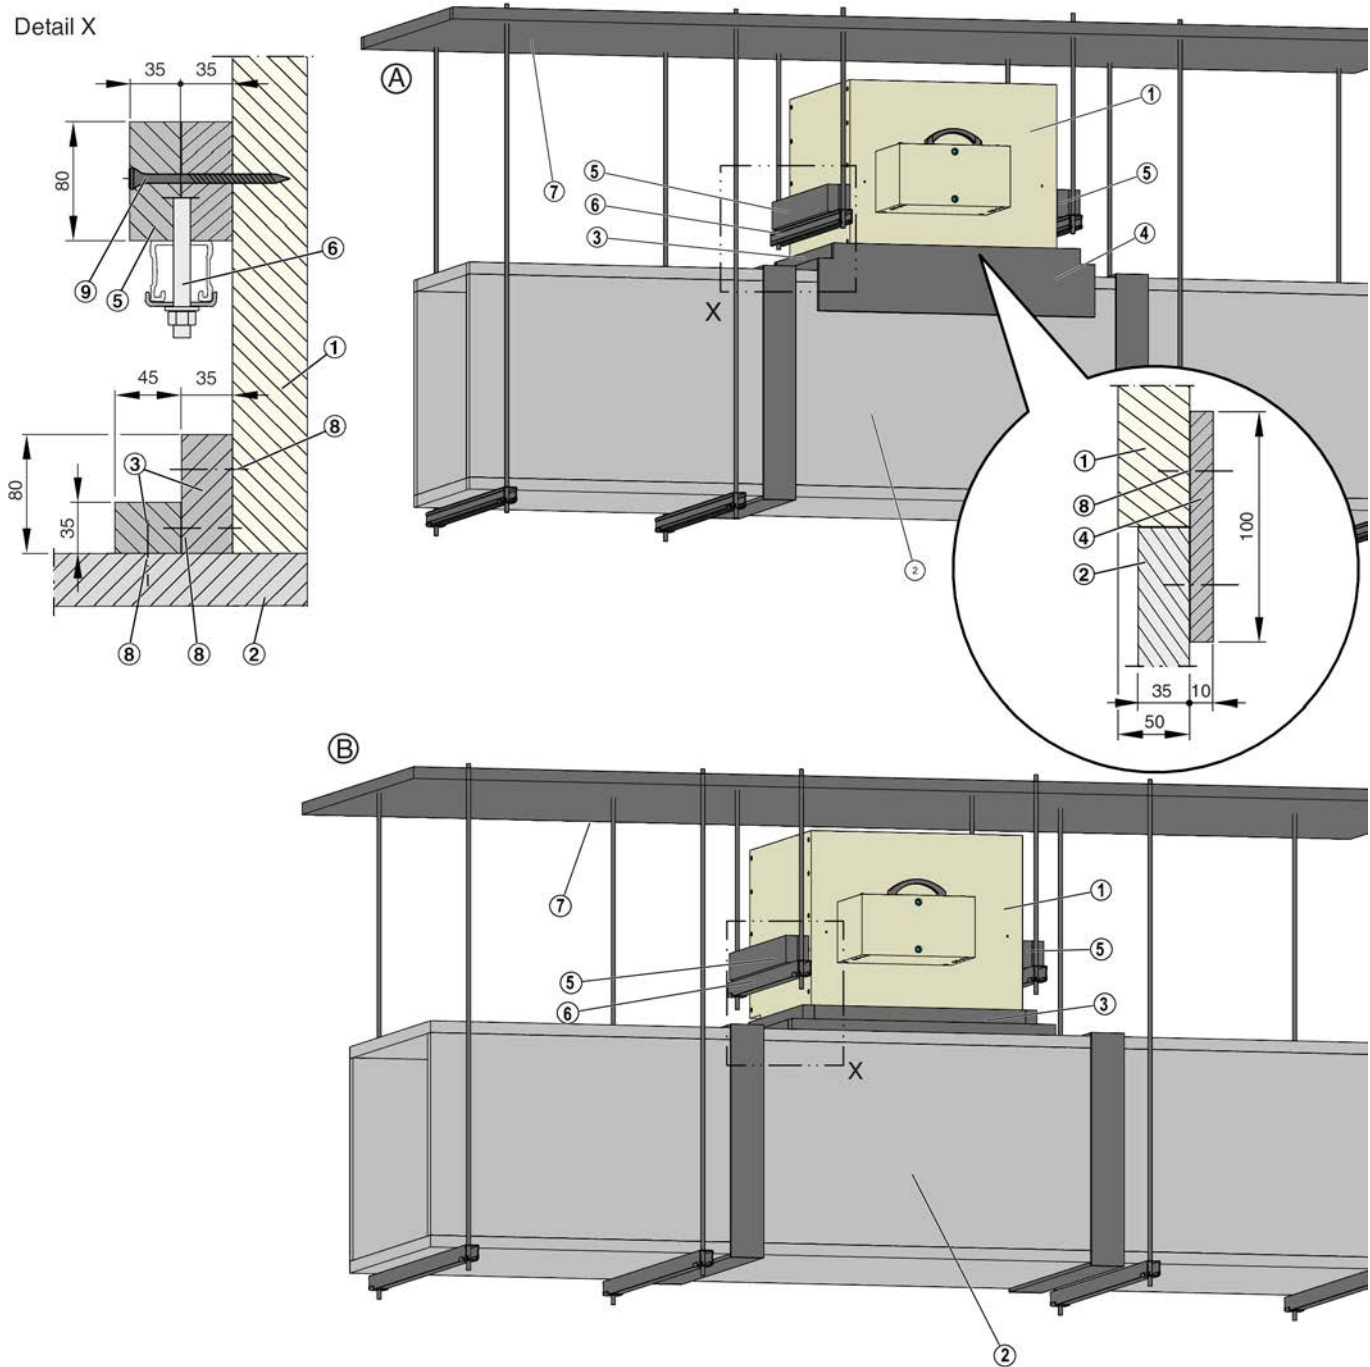

Fig. 22: Installation on fire-resistant horizontal smoke extract ducts, classification index: hod
1. ▶ Fix the reinforcing board (Fig. 22 /5) to the smoke control damper on both sides with dry wall screws; (pre-drill holes with $\varnothing 3 \text{ mm}$), $\leq 100 \text{ mm}$ distance between screws, use at least 2 screws.
4. ▶ Connect the fire-resistant smoke extract duct to the smoke control damper by placing an angle section (Fig. 22 /3) between the duct and the damper. Apply glue to the angle sections at the joints, at the smoke extract duct and the smoke control damper, then link the sections with steel staples, distance $\leq 150 \text{ mm}$.